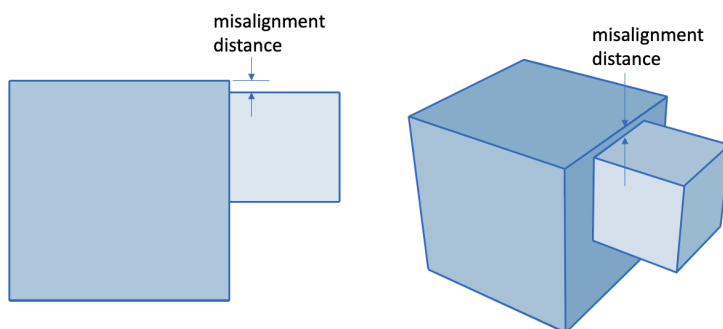

Figure 15. Volume Misalignment Example
- **Volume Misalignments** - Misalignments are caused when neighboring volumes touch without overlap, but a small distance between neighboring vertices, curves or surfaces is identified. Figure 15 shows an example of a misalignment. Misalignments can result in sliver surfaces and bad element quality if not resolved prior to imprinting and merging. The **Volume Misalignments** diagnostic test will list pairs of volumes that are misaligned. Expanding a volume pair will reveal entity to entity misalignments that were detected between the pair. Three categories of misalignments will be displayed, namely: vertex-vertex, vertex-curve and vertex-surface ordered by their misalignment distance. These indicate entity pairs that are closer than the **Volume Gap** tolerance that is set in the Options panel. The **tweak surface replace** command can often be used to correct misalignments.